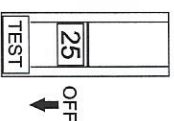

Figure 25. AC Circuit Breaker (OFF)
- Place AC circuit breaker (Figure 25) in the **OFF** position